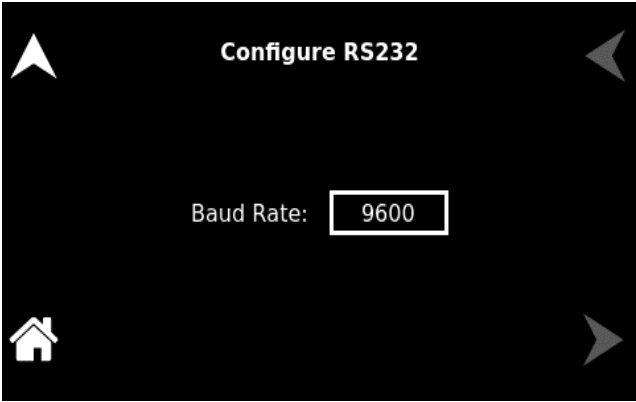
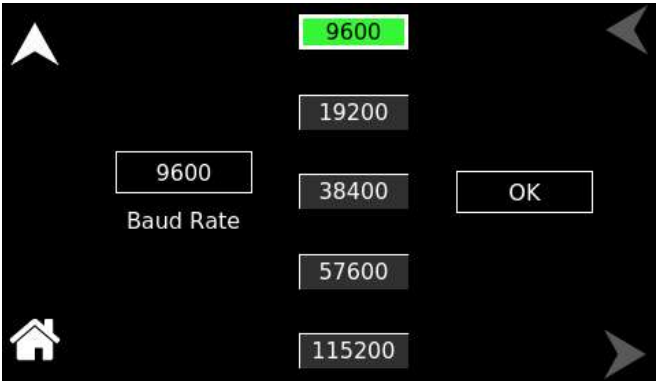

Figure 8-176. RS232 Screen -Configure
Figure 8-177. Baud Rate Selection
- b) **Configure RS232:** Configures the RS-232 Baud Rate, refer to Figure 8-175, Figure 8-176 and Figure 8-177. This setting must match those set for the communications port of the user external controller.